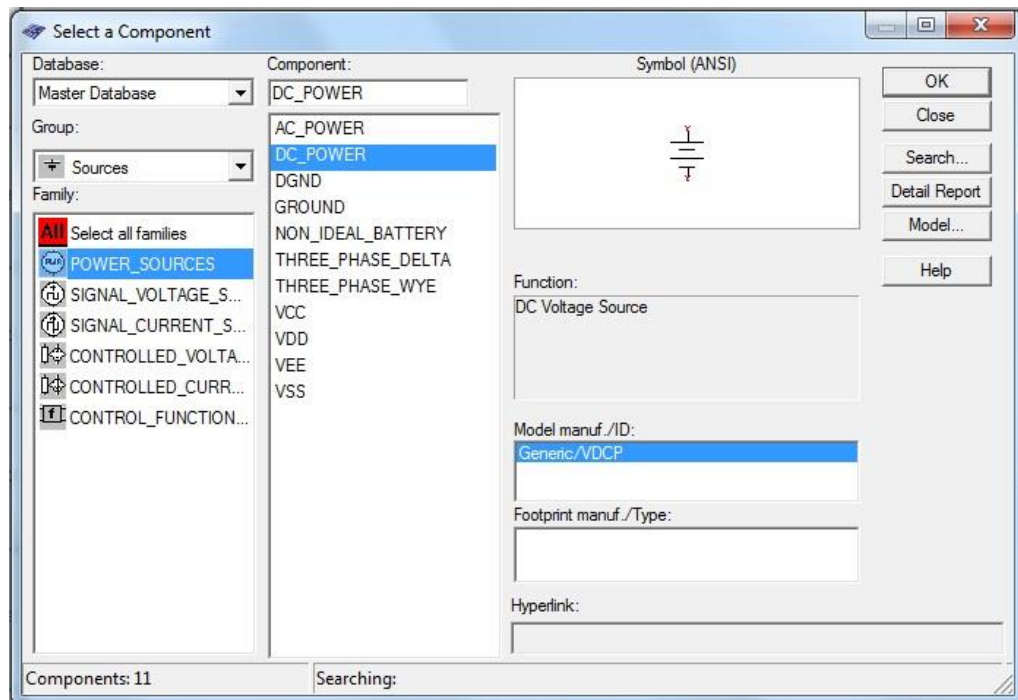

Figure 4.9: Selecting a Source
- b. Once the 'Place Source' is clicked, a window, as shown in figure 4.9, would appear. Select the 'DC source' from the menu. Make sure the 'Power Sources' from the first column is selected, and then select the DC source. (In figure 4.5 both are highlighted)